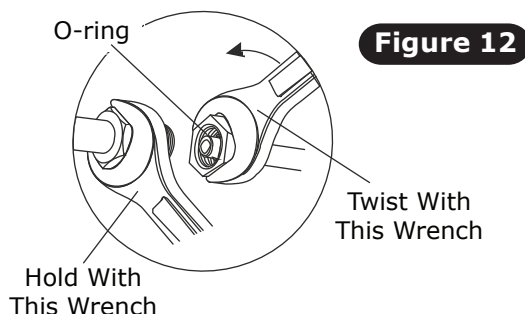
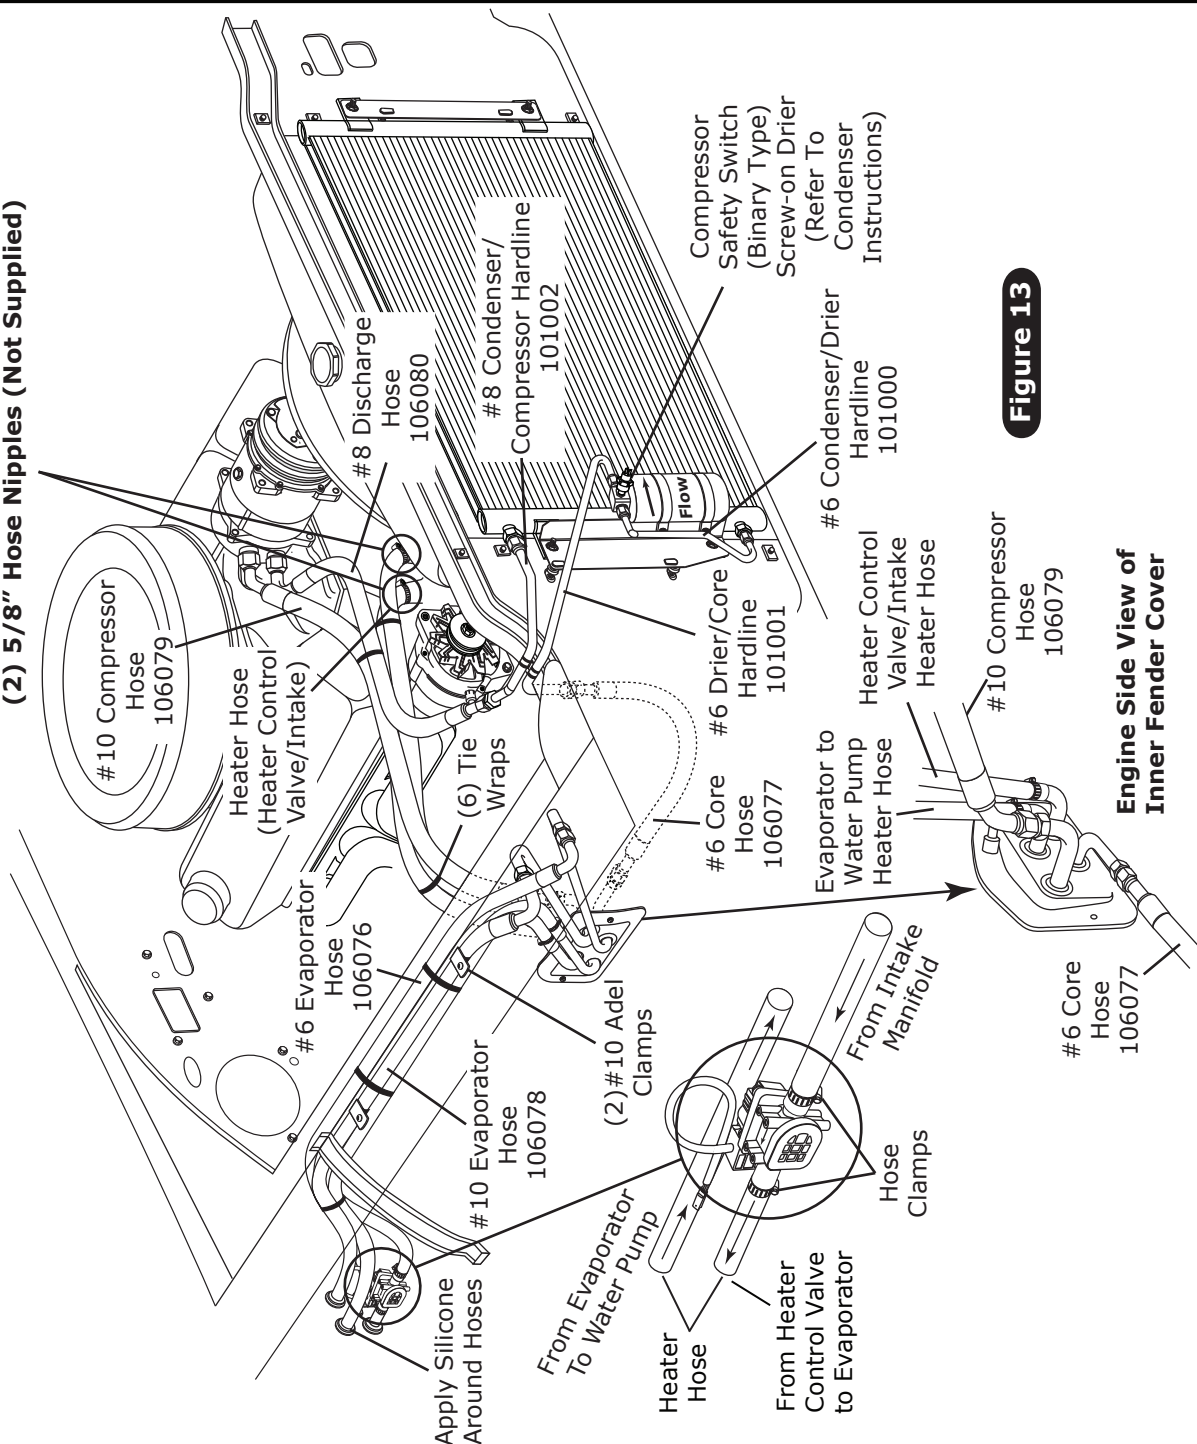

Figure 12
Figure 13
1. On a workbench, install evaporator rear bracket and heater hose fittings with properly lubricated O-rings (See Figure 6, Page 9, and Figure 12, Page 13).
1. Locate the #8 compressor A/C hose. Lubricate (2) #8 O-rings and connect the 90° female fitting to the #8 discharge port on the compressor. Then route the straight female fitting with R134a service port to the #8 condenser hardline coming over the core support. Tighten each fitting connection as shown in Figure 12, above.
2. Locate the #10 compressor A/C hose. Lubricate (2) #10 O-rings and connect the 45° fitting to the #10 suction port on the compressor. Route the 45° female fitting with R134a service port to the #10 hardline on the inner fender cap. Lubricate (2) #10 O-rings and connect the 90° female fitting in the wheel well to the #10 hardline on the inner fender cap. Then route the straight female fitting from the inner fender cap to the #10 fitting on the evaporator (See Figure 9a, Page 11, and Figure 13, Page 14). Tighten each fitting connection as shown in Figure 12, above.
3. Locate the #6 evaporator A/C hose. Lubricate (2) #6 O-rings and connect the straight female fitting to the #6 hardline coming over the core support from the drier. Route the straight female fitting to the #6 hardline on the inner fender cap. Lubricate (2) #6 O-rings and connect the 90° female fitting in the wheel well to the #6 hardline on the inner fender cap. Then route the 90° female fitting from the inner fender cap to the #6 fitting on the evaporator (See Figure 9a, Page 11, and Figure 13, Page 14). Tighten each fitting connection as shown in Figure 12, above.
1. In engine compartment, route a piece of heater hose from the water pump to the top heater fitting on the inner fender cap (See Figure 13, below). Secure using hose clamps.
2. In engine compartment, route a piece of heater hose from the intake to the bottom heater fitting on the inner fender cap (See Figure 13, below). Secure using hose clamps.
3. In wheel well, route a piece of heater hose from the top heater fitting on the inner fender cap to the top heater fitting of the heater core as shown in Figure 9a, Page 11, and Figure 13, below. Secure using hose clamps.
4. In wheel well, route a piece of heater hose from the bottom heater fitting on the inner fender cap to the bottom heater fitting of the heater core as shown in Figure 9a, Page 11, and Figure 13, below. Secure using hose clamps. **NOTE: Install heater control valve in line with intake manifold (pressure side) heater hose, and secure using hose clamps as shown in Figure 13, below. Also note proper flow direction.**
5. Apply a bead of silicone around each hose where it passes through the grommet on the firewall (See Figure 13, below).